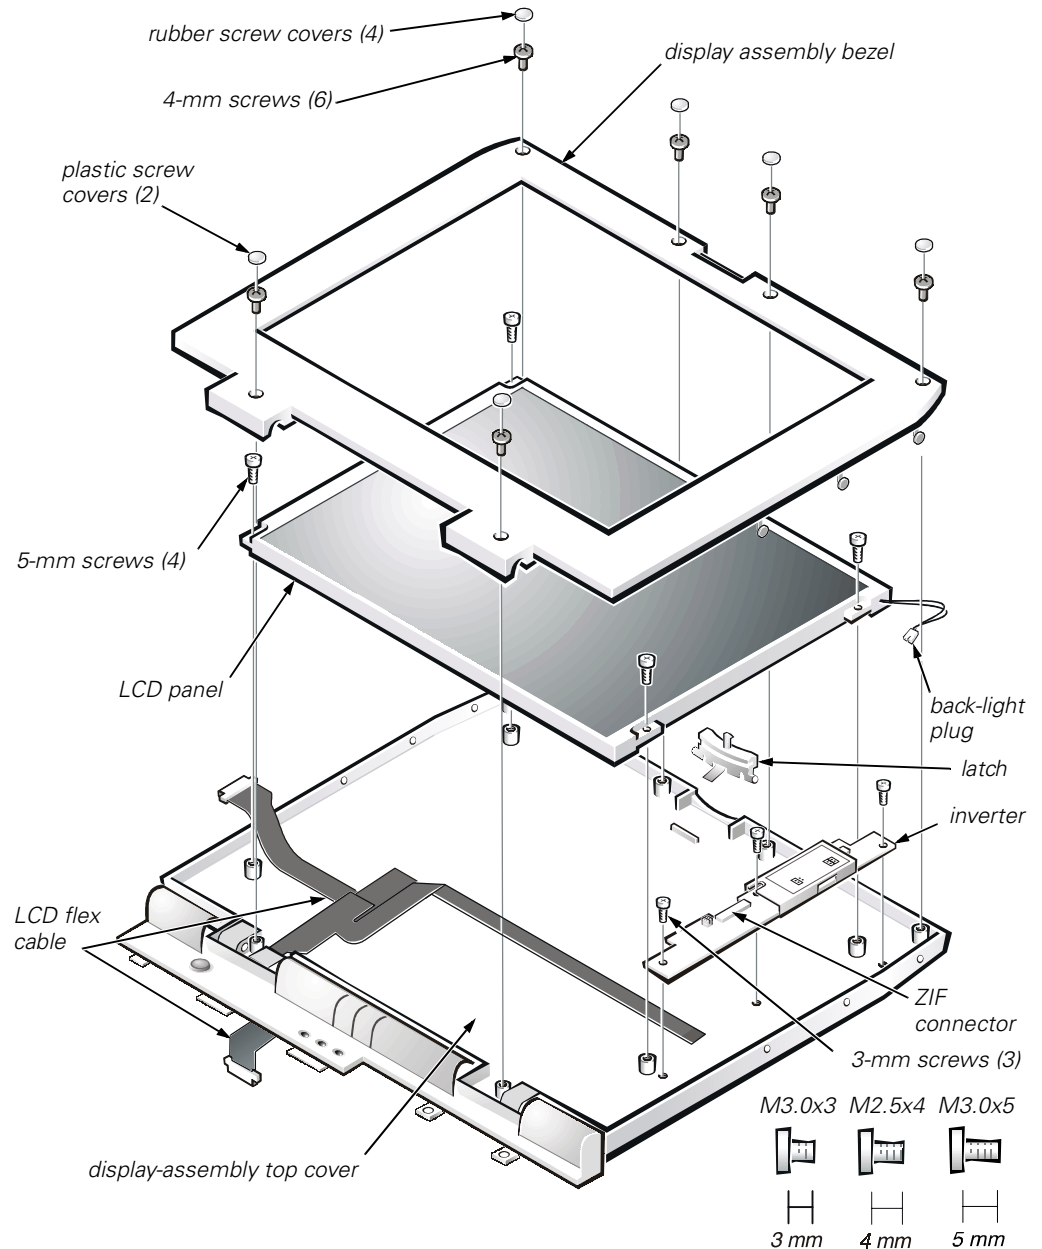

Figure 15. 12.1-Inch Display Assembly
1. Remove the 4-mm screw securing the metal cable clip to the left hinge of the display-assembly top cover (see Figure 15).